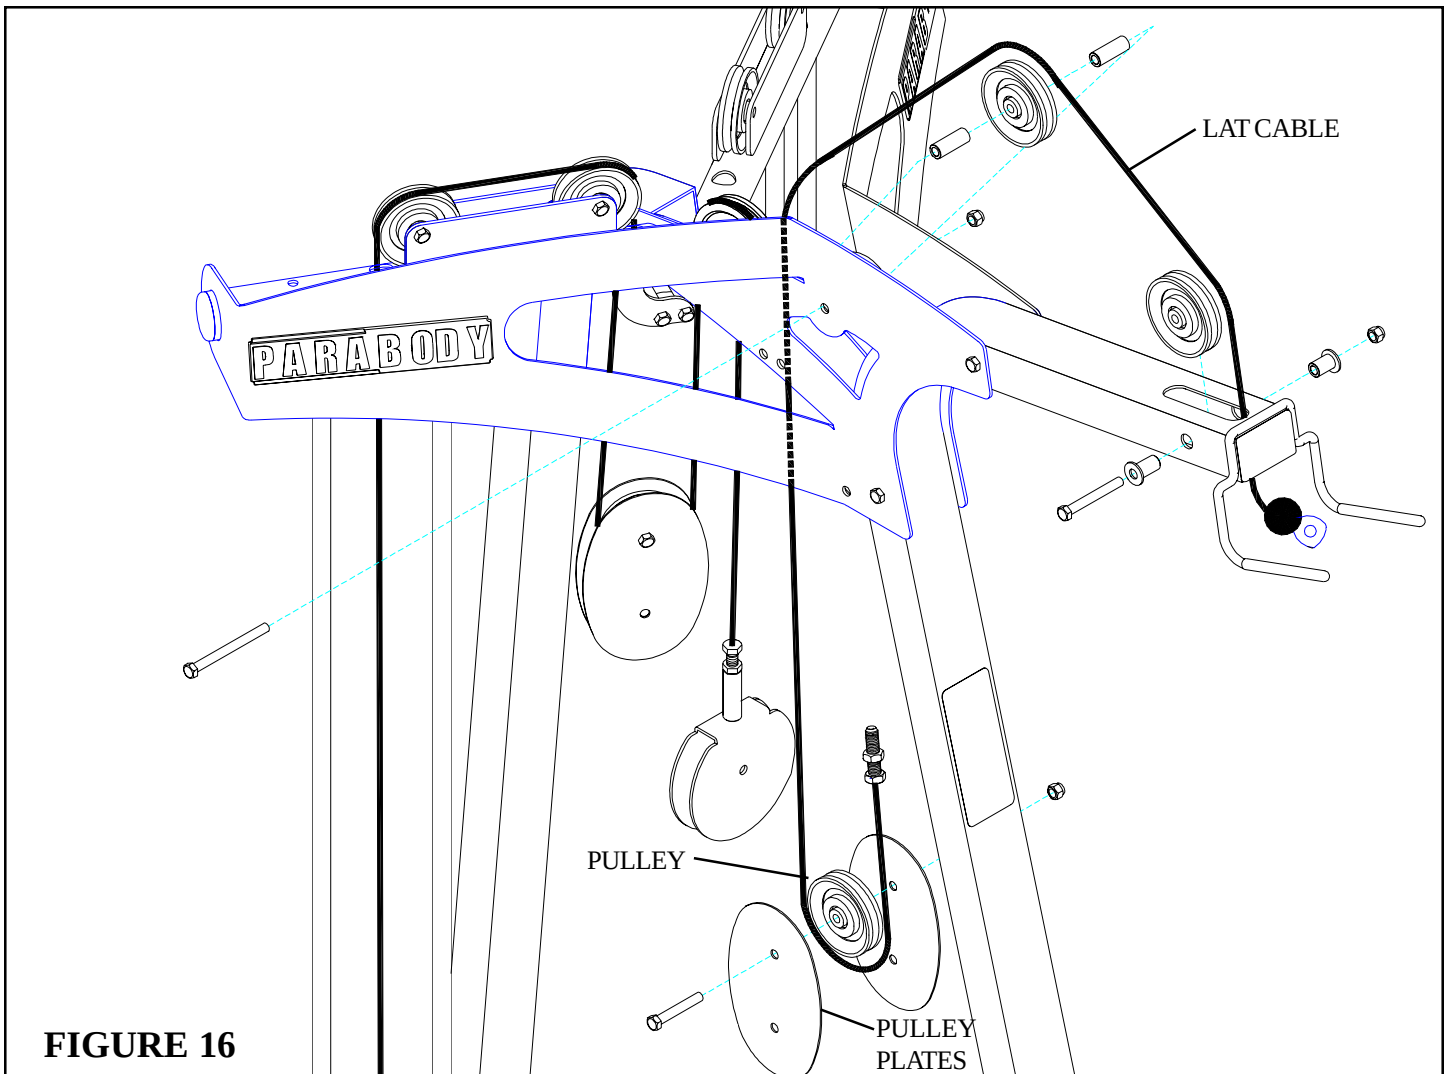

FIGURE 16
- Route the previously removed original LAT CABLE through the FRAME (1) and assemble one 3-1/2" PULLEY to the PULLEY PLATES using one existing 3/8 X 1-3/4" BOLT and one existing 3/8" LOCK NUT. See FIGURE 16.